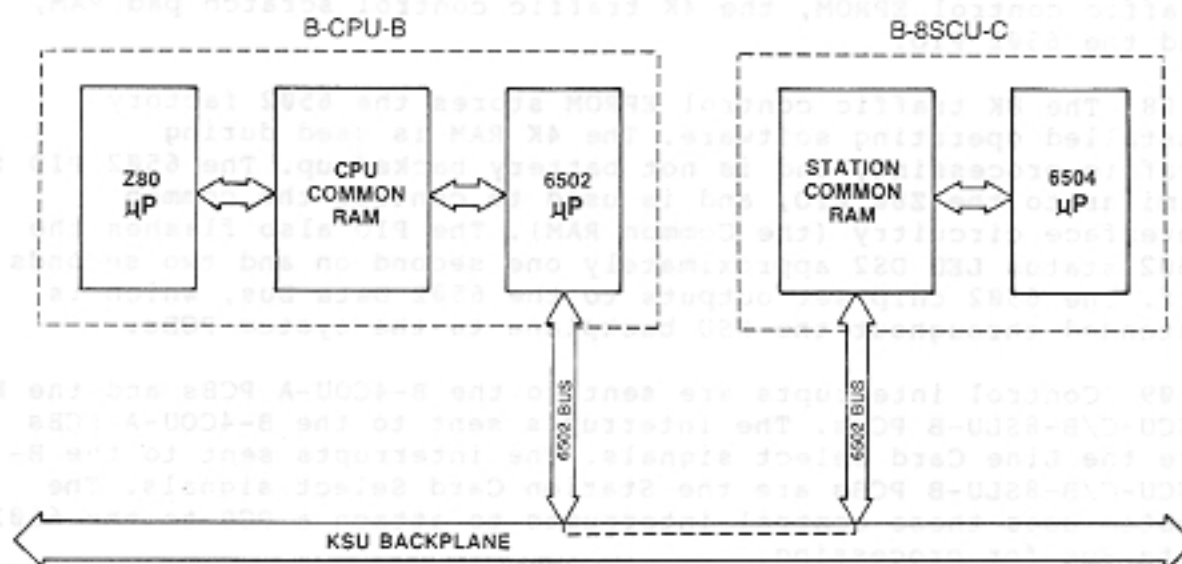

Figure 8-7 CPU COMMON RAM, TCX-128
3.10 The CPU Common RAM is the interface between the 280 and 6502 microprocessors (Figure 8-7). The Common RAM frees the 280 executive from the burden of repetitive polling of all the stations in the system. This structure increases the efficiency of both the 280 executive and 6502 traffic controller since the two processors do not have to run in synchronization.